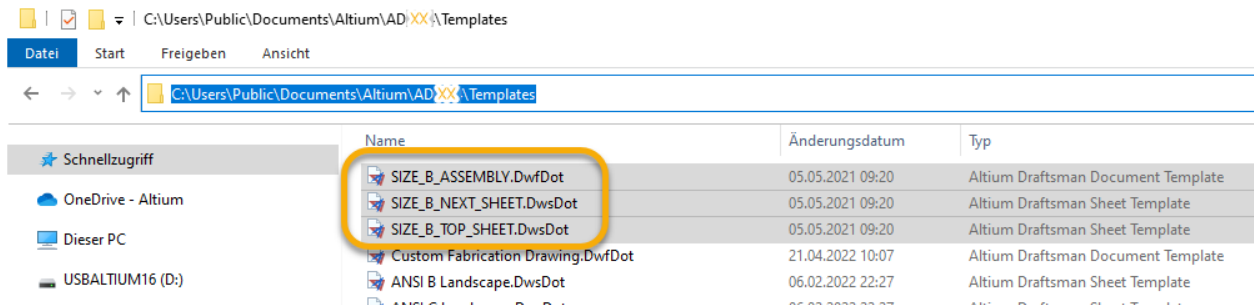

Figure 12 Training Draftsman Template Folder
51. Copy the Draftsman templates from `.. \Project Templates \Draftsman Templates` and paste them into the Draftsman templates path location in Windows Explorer, Figure 12.